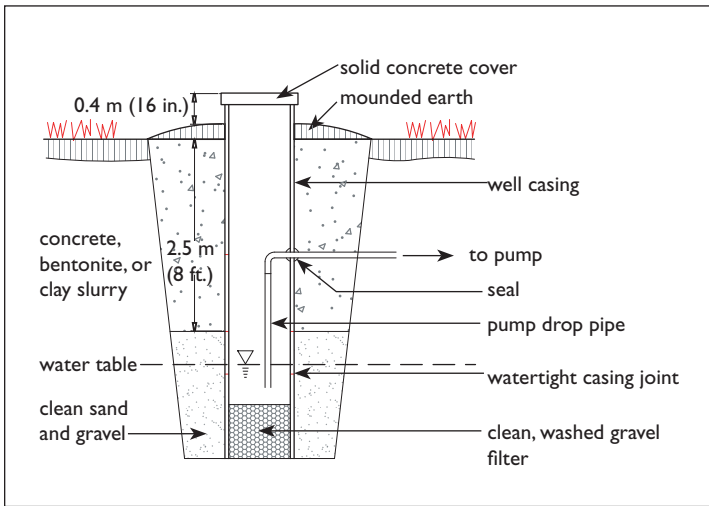

Figure 1 Dug well
**Dug and bored wells** (60-120 cm/24-48 in. diameter) are commonly used to produce water from shallow surface aquifers (less than 15 m/50 ft. deep); and are prone to contamination from surface water infiltration and to water shortages (see Figure 1 on page 2). An **aquifer** is an underground formation of permeable rock or loose material, which can produce useful quantities of water when tapped by a well. Another type of well used in surface aquifers is a **sand point well** (2.5-5 cm/1-2 in. diameter), which is a pointed well screen connected to a small diameter pipe driven into water-bearing sand or gravel.